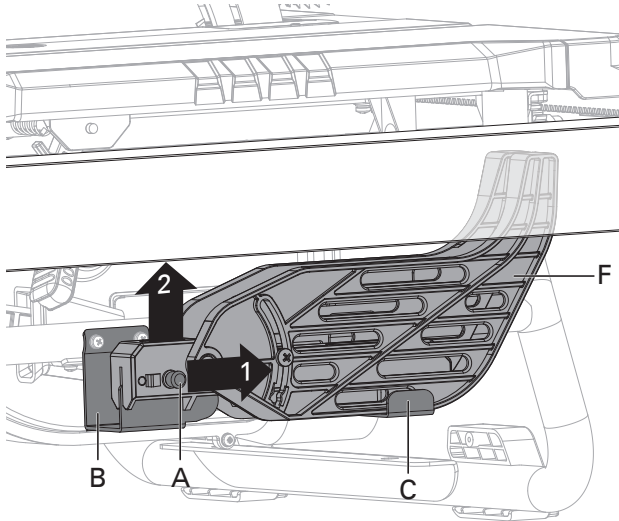

Fig. 10a
BLADE GUARD INSTALLATION (Fig. 10a-10c)
- Hold the knobs (A) (one on either side of the blade guard) and push the knobs forward to the front of the blade guard and up until the pin comes out from the slot in the mounting bracket (blade guard storage) (B) at bottom front right side of the saw, then remove the blade guard from the U-bracket (blade guard storage) (C) at bottom middle right side of the saw (Fig. 10a).